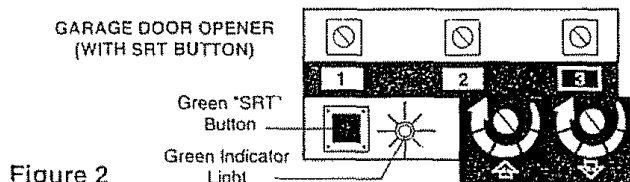

Figure 2
- Press the selected code digits on the keypad; then press and HOLD the ENTER button, and press the SRT button on the opener end panel (behind the Control Center for screwdrive), Figure 2.